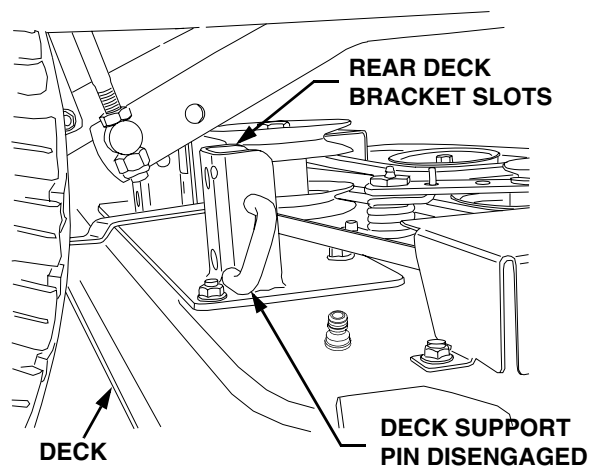

Figure 46
7. If not already done, pull the deck support pins outward, turn downward and release so both spring-loaded pins are held in the disengaged position against the outer surface of the deck brackets (See Figure 46).